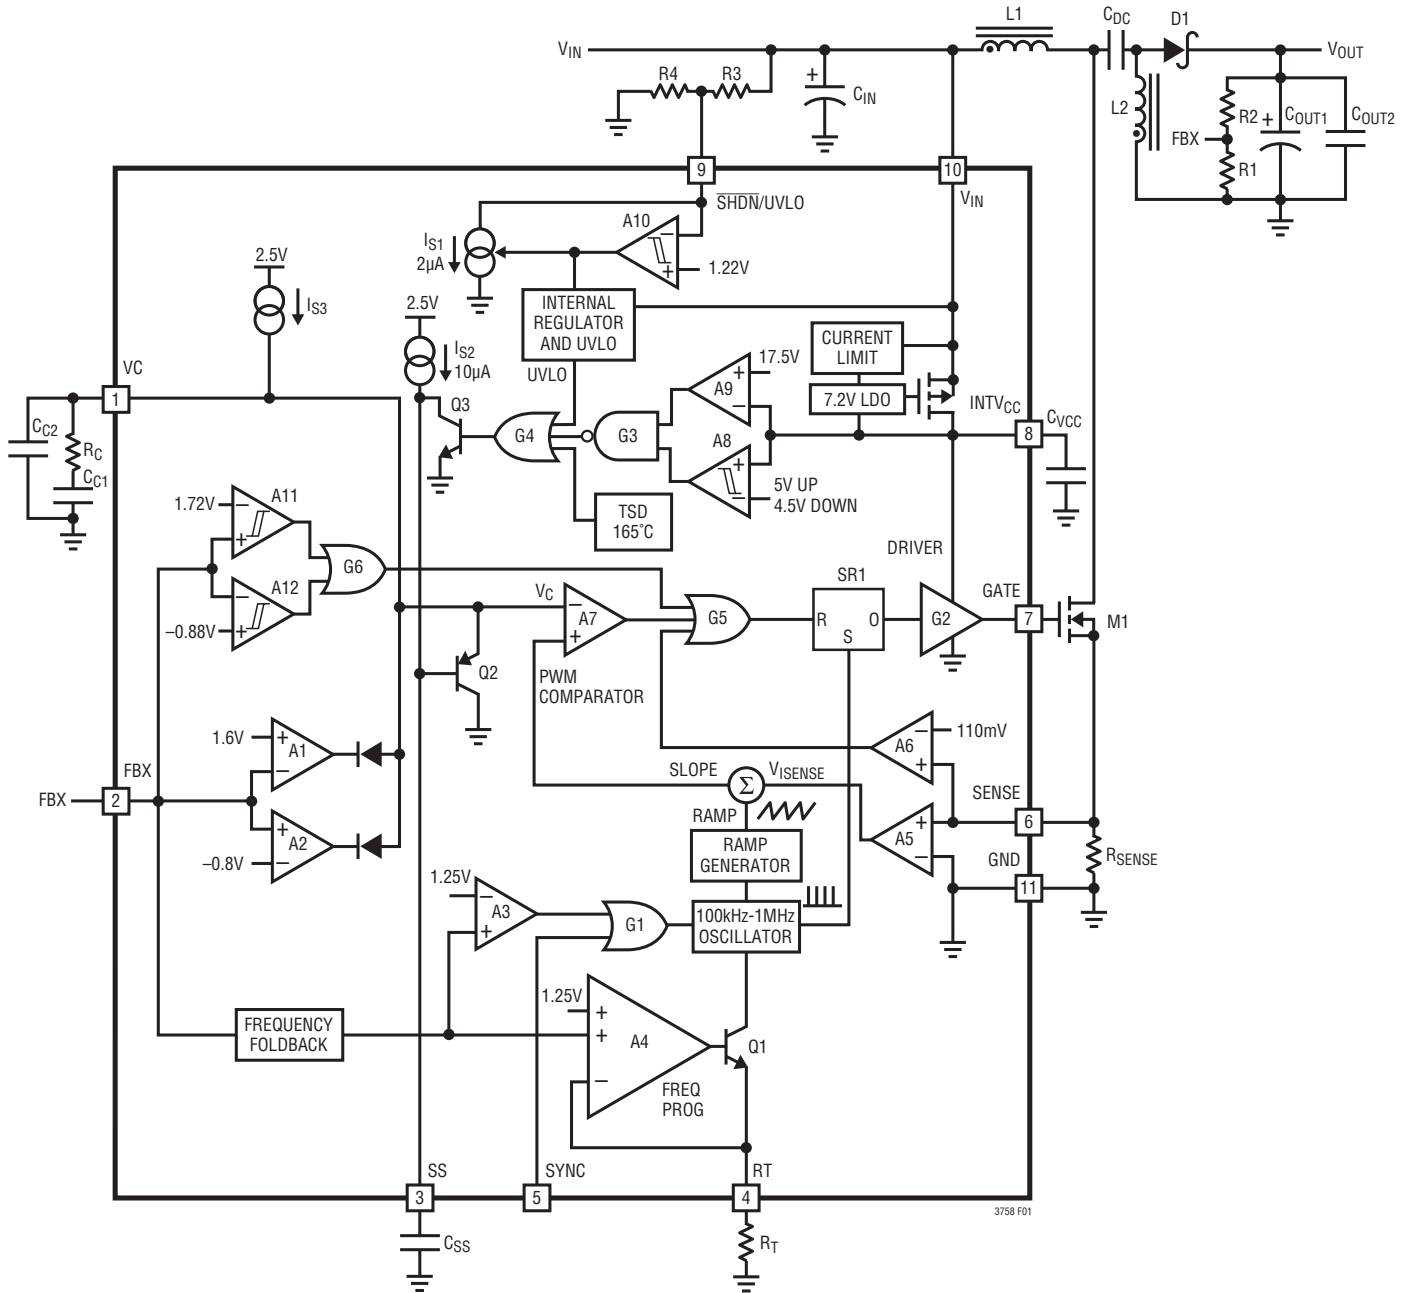

Figure 1. LT3758 Block Diagram Working as a SEPIC Converter
The LT3758 uses a fixed frequency, current mode control scheme to provide excellent line and load regulation. Operation can be best understood by referring to the Block Diagram in Figure 1.
The LT3758 is capable of generating either positive or negative output voltage with a single FBX pin. It can be configured as a boost, flyback or SEPIC converter to generate positive output voltage, or as an inverting converter to generate negative output voltage. When configured as a SEPIC converter, as shown in Figure 1, the FBX pin is pulled up to the internal bias voltage of 1.6V by a voltage divider (R1 and R2) connected from V_{OUT} to GND. Comparator A2 becomes inactive and comparator A1 performs the inverting amplification from FBX to VC. When the LT3758 is in an inverting configuration, the FBX pin is pulled down to $-0.8V$ by a voltage divider connected from V_{OUT} to GND. Comparator A1 becomes inactive and comparator A2 performs the noninverting amplification from FBX to VC.
The purpose of this current is to allow the user to program the rising hysteresis. The Block Diagram of the comparator and the external resistors is shown in Figure 1. The typical falling threshold voltage and rising threshold voltage can be calculated by the following equations:
An internal, low dropout (LDO) voltage regulator produces the 7.2V INTV_{CC} supply which powers the gate driver, as shown in Figure 1. The LT3758 contains an undervoltage lockout comparator A8 and an overvoltage lockout comparator A9 for the INTV_{CC} supply. The INTV_{CC} undervoltage (UV) threshold is 4.5V (typical), with 0.5V hysteresis, to ensure that the MOSFETs have sufficient gate drive voltage before turning on. The logic circuitry within the LT3758 is also powered from the internal INTV_{CC} supply.
The choice of operating frequency may be determined by on-chip power dissipation, otherwise it is a trade-off between efficiency and component size. Low frequency operation improves efficiency by reducing gate drive current and MOSFET and diode switching losses. However, lower frequency operation requires a physically larger inductor. Switching frequency also has implications for loop compensation. The LT3758 uses a constant-frequency architecture that can be programmed over a 100kHz to 1000kHz range with a single external resistor from the RT pin to ground, as shown in Figure 1. The RT pin must have an external resistor to GND for proper operation of the LT3758. A table for selecting the value of R_T for a given operating frequency is shown in Table 1.
The output voltage V_{OUT} is set by a resistor divider, as shown in Figure 1. The positive and negative V_{OUT} are set by the following equations:
The LT3758 addresses this mechanism with the SS pin. As shown in Figure 1, the SS pin reduces the power MOSFET current by pulling down the VC pin through Q2. In this way the SS allows the output capacitor to charge gradually toward its final value while limiting the start-up peak currents. The typical start-up waveforms are shown in the Typical Performance Characteristics section. The inductor current I_L slewing rate is limited by the soft-start function.
the input voltage, load current, etc.). To compensate the feedback loop of the LT3758, a series resistor-capacitor network is usually connected from the VC pin to GND. Figure 1 shows the typical VC compensation network. For most applications, the capacitor should be in the range of 470pF to 22nF, and the resistor should be in the range of 5k to 50k. A small capacitor is often connected in parallel with the RC compensation network to attenuate the VC voltage ripple induced from the output voltage ripple through the internal error amplifier. The parallel capacitor usually ranges in value from 10pF to 100pF. A practical approach to design the compensation network is to start with one of the circuits in this data sheet that is similar to your application, and tune the compensation network to optimize the performance. Stability should then be checked across all operating conditions, including load current, input voltage and temperature.